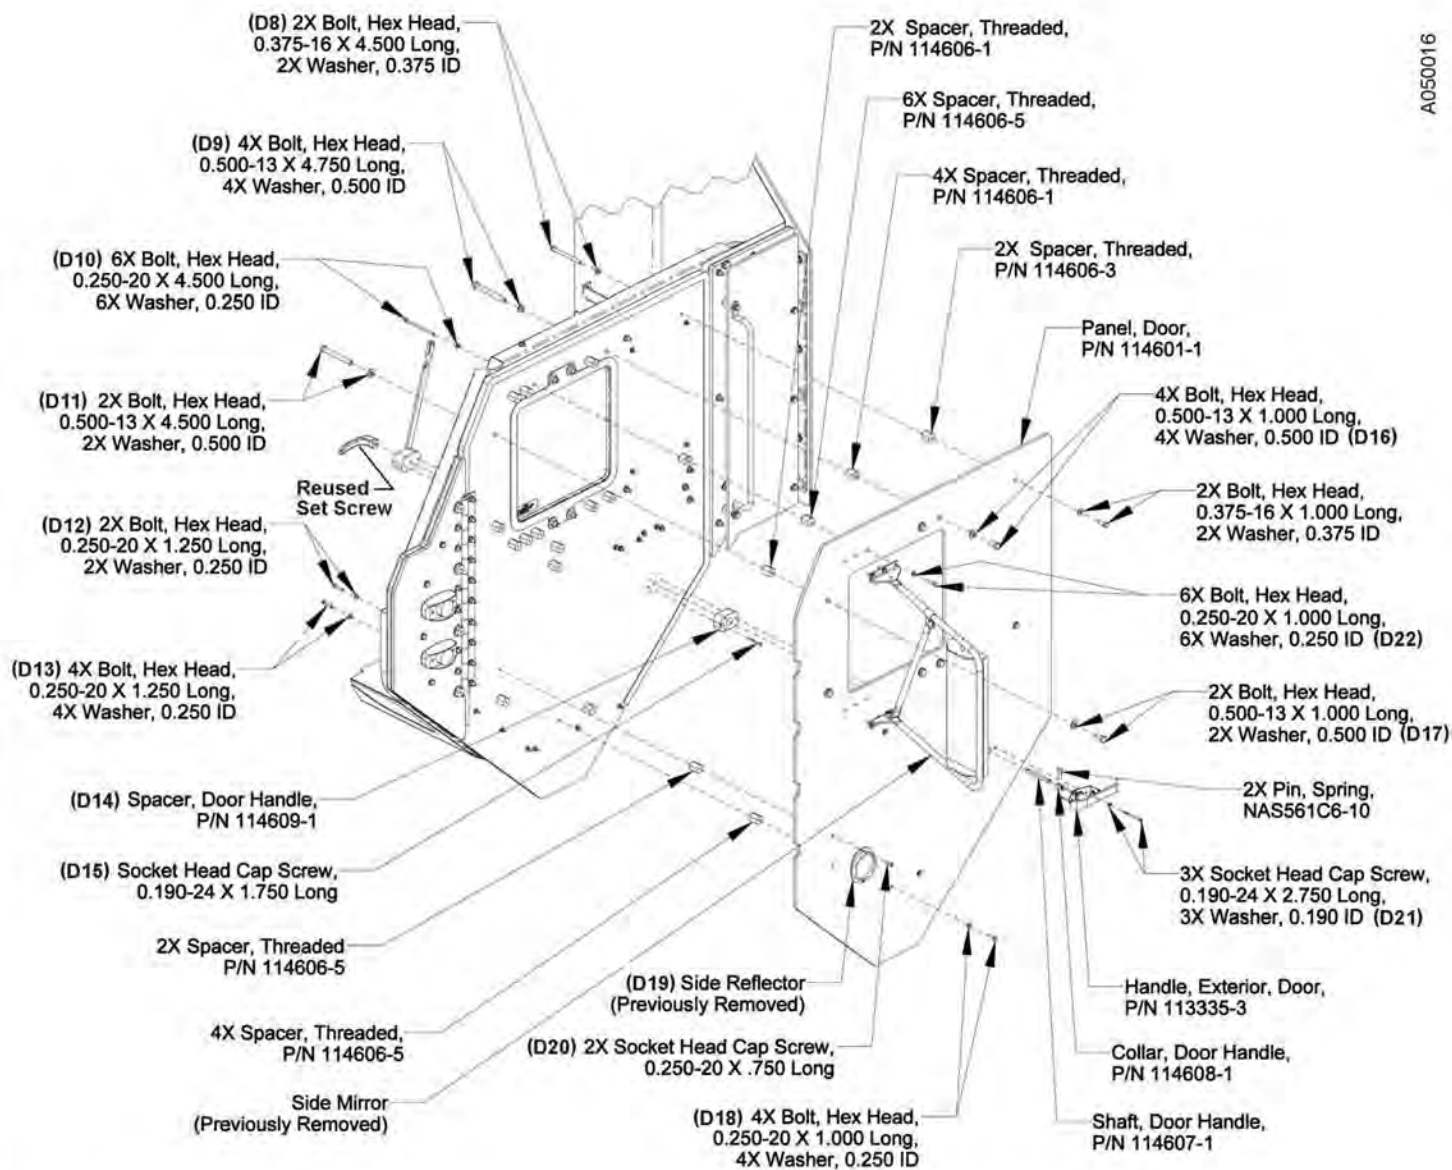

Figure 4. Installation of the Door Applique Armor Panel.
- h. Remove the Interior Door Handle by loosening the set screw (see Figure 4).
- q. Assemble the Door Handle Shaft (P/N 114607-1) to the existing shaft of the new Door Handle (P/N 113335-3) using the Collar (P/N 114608-1) and two Spring Pins (see Figure 4).